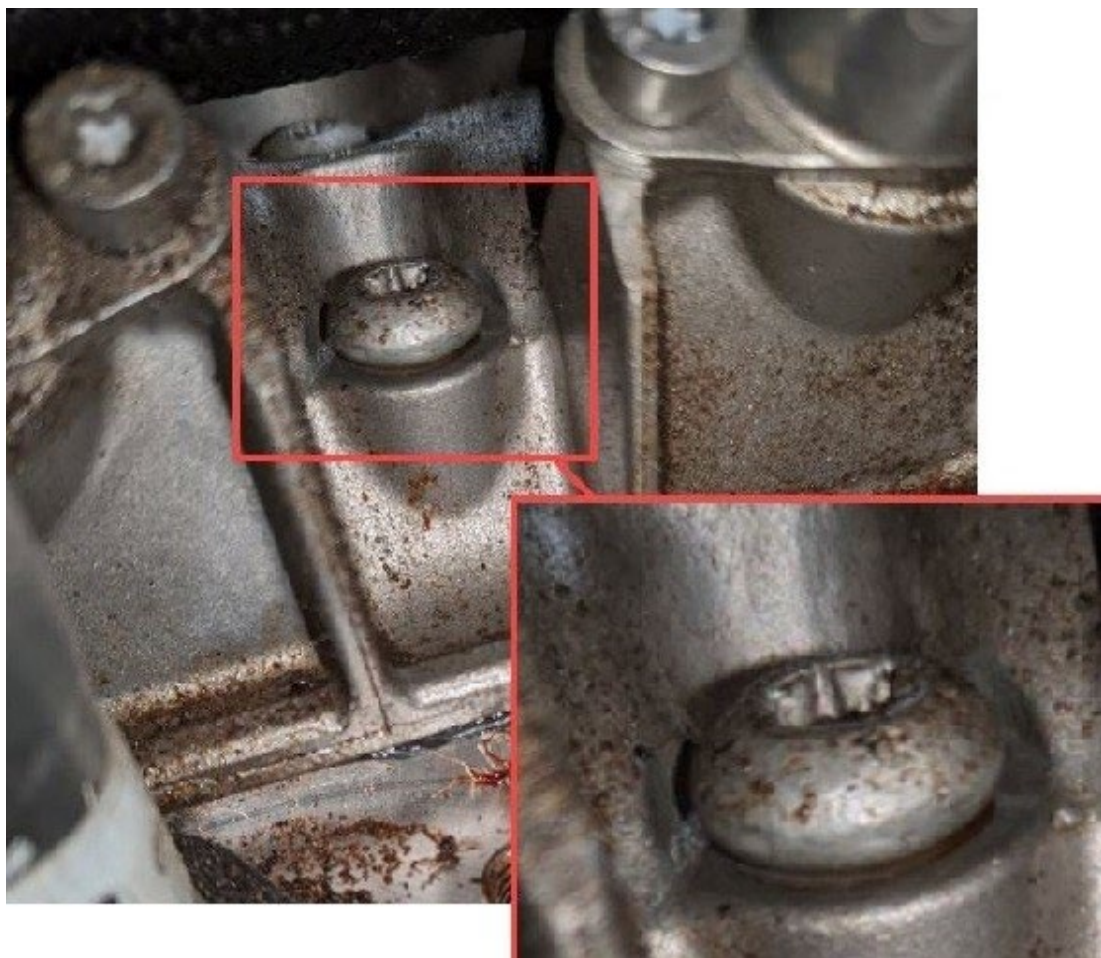

Figure 1: Oil on the threaded connection.
- The cylinder head cover is leaking in the area around the threaded connection on one or multiple bolts (Figure 1).